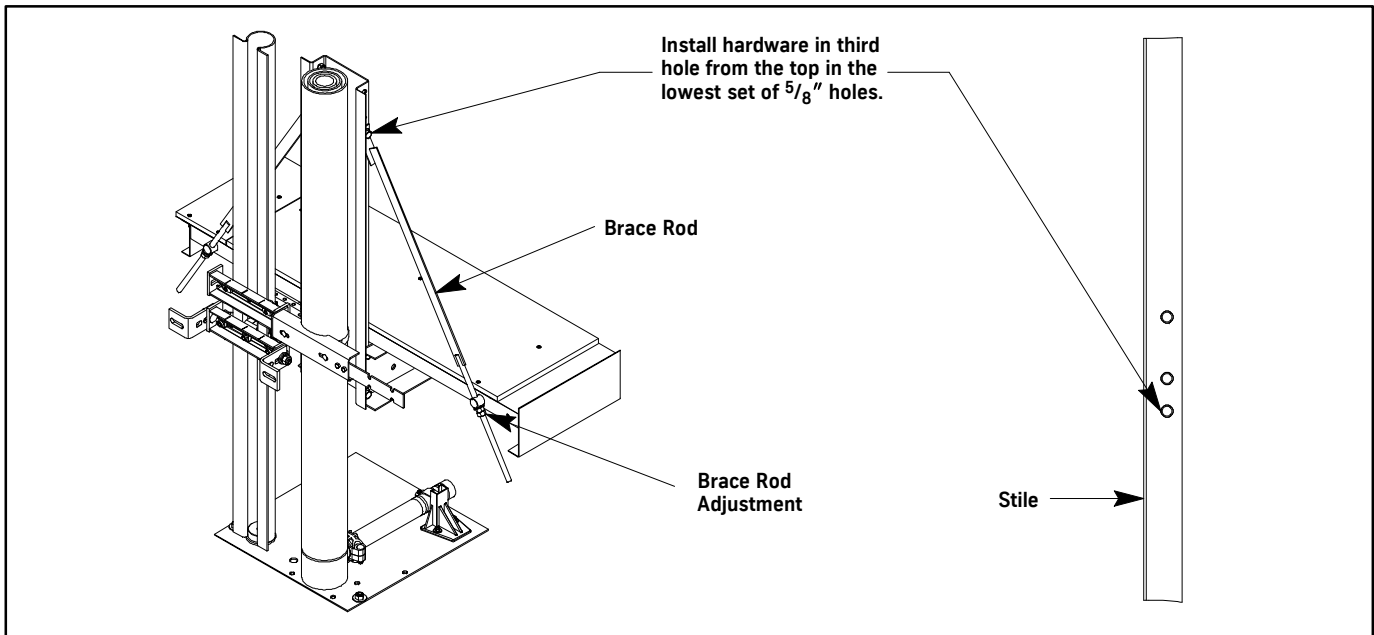

Figure 17 - Brace Rod Installation
NOTE: The brace rod goes in the lowest set of $\frac{5}{8}$ " holes in the stiles. See Figure 17.
4. Level the platform front to back by adjusting the brace rods. See Figure 17.